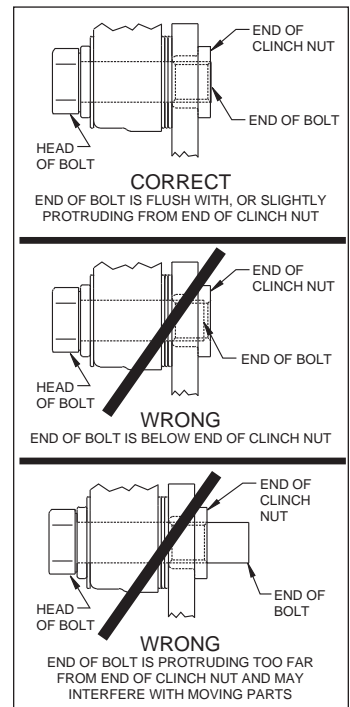

Figure 4. Clinch Nut Engagement Diagram
**Assembly Instructions** (numbers in parenthesis refer to the parts list and Figure 1 on the preceding pages): **CAUTION:** All mounting bolts must fully engage clinch nuts. Be sure to check that all bolts are either flush or protruding through flanged side of clinch nut after shimming, Figure 4.
- Pack the small outer bearing cone (14) with high temperature disc brake bearing grease and install into hub (7). Slide the hub/rotor assembly onto the spindle. Secure using spindle washer (15) and OEM spindle nut, Photo 6. Adjust bearings by tightening the wheel bearing nut to 60 **in-lbs.** while turning the hub/rotor assembly (10/11). Install saved OEM nut lock (if any) on the wheel bearing nut with one pair of slots in-line with (covering) the cotter pin hole. Back off the adjusting nut lock assembly (or castle nut) one slot and install a new cotter pin (not supplied). **The resulting adjustment should be zero (no pre-load) to 0.003 inch end play.**
- Screw dust cap (17) into hub (7), Photo 7. Friction created by the o-ring (16) on the dust cap keeps it from unscrewing. **NOTE:** *The O.D. of the existing OEM spindle washer may be larger than the I.D. of the dust cap not allowing it to seat against the hub face. Therefore, use the spindle washer (15) supplied with the kit instead of the OEM washer.*
- NOTE:** *Please reference the caution statement at the beginning of the assembly instructions.* Mount the caliper (18) onto the caliper mounting bracket (1) using bolts (21) and washers (20), as shown in Figure 1. Initially place two .035" thick shims (19) on each bolt between the caliper and the bracket, Photo 8. Temporarily tighten the mounting bolts and view the rotor (11) through the top opening of the caliper. The rotor should be centered in the caliper, Photo 9. If not, adjust by adding or subtracting shims between the bracket and the caliper. Always use the same amount of shims on each of the two mounting bolts. **NOTE:** *The end of each bolt must be flush with or slightly protruding from the head of the clinch nut, as shown in Figure 4.* If necessary place spare shims between washer (20) and caliper mounting ear to achieve the proper clinch nut engagement. Once the caliper alignment and clinch nut engagement are correct, remove the bolts one at a time, apply red *Loctite*® 271 to bolt threads, and torque to 40 ft-lb.
- Install the disc brake pads (22) into the caliper, with the friction material facing the rotor (11), and secure in place using cotter pin (23), Photo 10.